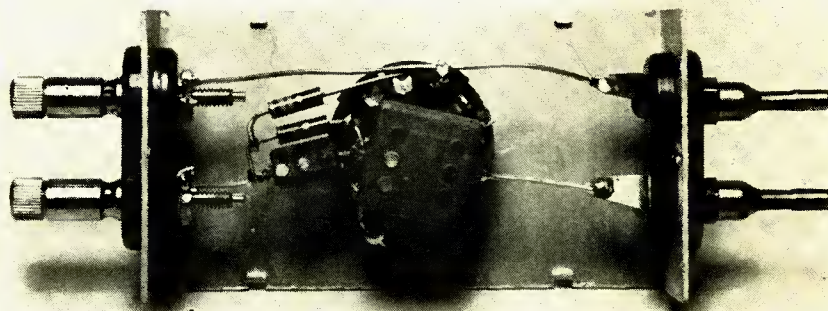

Fig. 7. Internal construction of the unit, showing how all components are mounted on switch.
Fig. 7. Block schematics illustrating how the distribution of feedback can be modified in a two-loop feedback amplifier: in the original amplifier (A) the inner loop gives 6 db feedback, with an attenuation in the feedback of 12 db across a gain of 18 db; this gives a resultant gain of 12 db; the over-all gain is controlled chiefly by the 20 db attenuation in the over-all feedback; with  $34 + 12 = 46$  db total forward gain, this loop gives 26 db feedback. By increasing the inner-loop feedback to 10 db (reducing the attenuation in the feedback path from 12 db to 8 db), the output section with feedback now drops to 8 db gain (B), and the over-all gain is now only  $34 + 8 = 42$  db. As a result, the outer-loop feedback is now 22 db instead of 26 db. These figures are approximations based on the formula  $A = 1/B$ , which is not too accurate here; in practice there would be a change in gain of 3 db feedback on the inner loop and of about 2.7 db on the outer loop, leaving a net change of about 0.3 db (lower). A slight reduction in outer-loop feedback could offset this.
To achieve this the feedback resistors in the outer loop need not as a rule be changed, because increasing the feedback in the inner loop alters the effective gain in the outer loop and so automatically reduces the feedback in the outer loop by approximately the same amount as the inner loop feedback is increased. Figure 7 illustrates this. Do not try to vary this more than about 3 to 6 db from the origi-
quite straightforward. The entire wiring is constructed on a two-circuit, six-position switch, and mounted in an aluminum box 2¼ × 2¼ × 4 in. The input terminals are a set of banana plugs, spaced at ¾ in. so as to plug directly into a signal generator. The output is taken from a pair of banana jacks spaced at the same distance. Figure 7 shows an inside view of the unit.